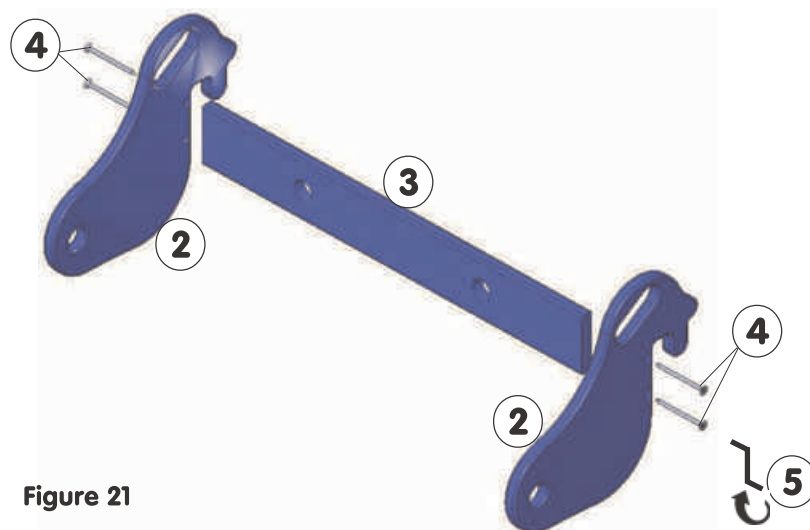

Figure 21
This part (1) is used to add éduc'gym elements laterally (ladders, climbing panels, slide, ...) to existing structures (see figure 21).